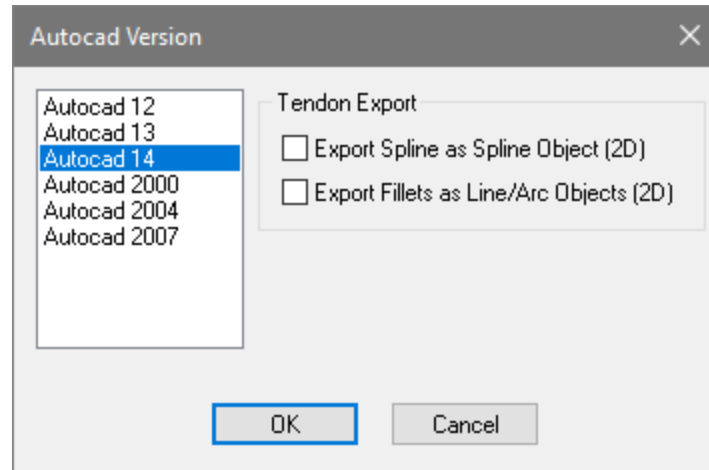

Figure 8-90
- We can now export the tendons to a CAD drawing in order to produce our documentation. Go to *File* → *Export* → *DWG*. This will open the *AutoCAD Version* window where the user can choose the drawing version as well as, whether they want the drawing to export tendons as Polylines or Splines as shown in **FIGURE 8-90**.